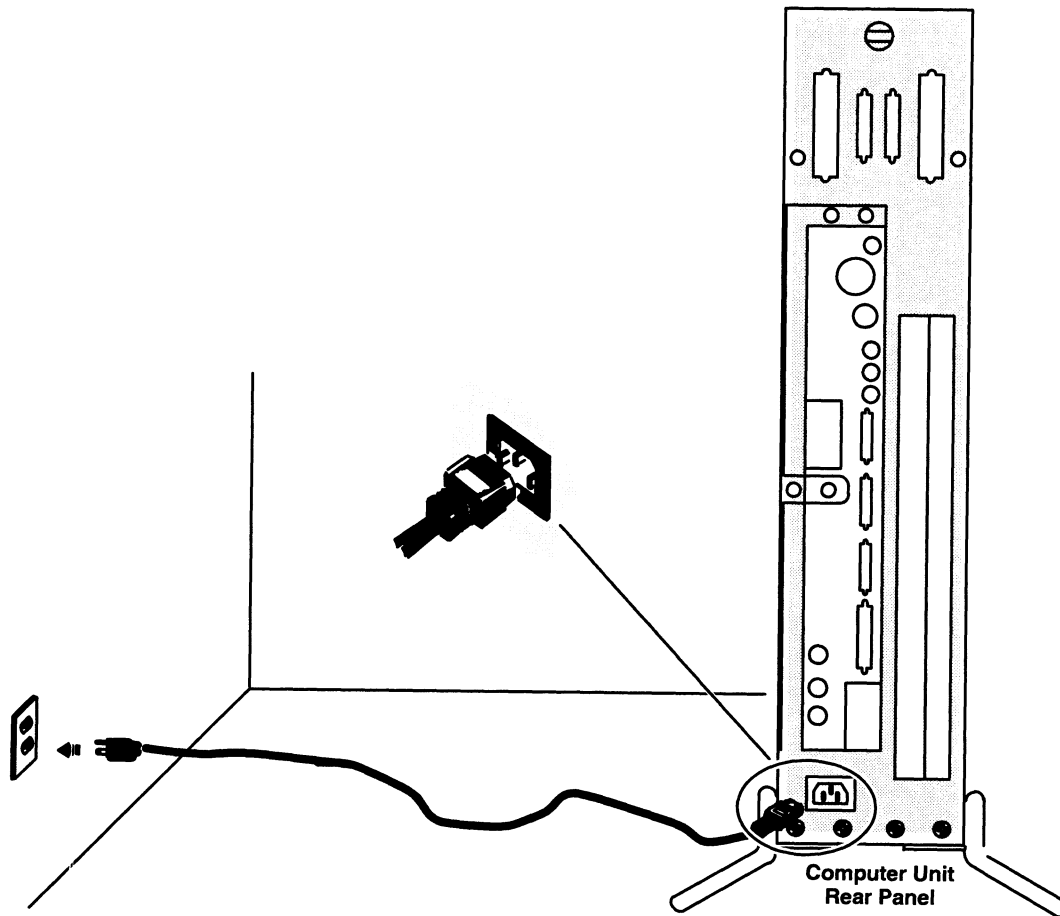

Figure 2-15 Connecting the Computer Unit Power Cord
2. The computer unit is shipped with a yellow and black warning label covering the rear panel ac connector. Examine the computer unit's device rating label to be sure your computer unit's voltage is properly set for your site. If the label indicates proper voltage, remove the warning label and plug the female end of the computer unit power cord into the ac connector as shown in Figure 2-15.